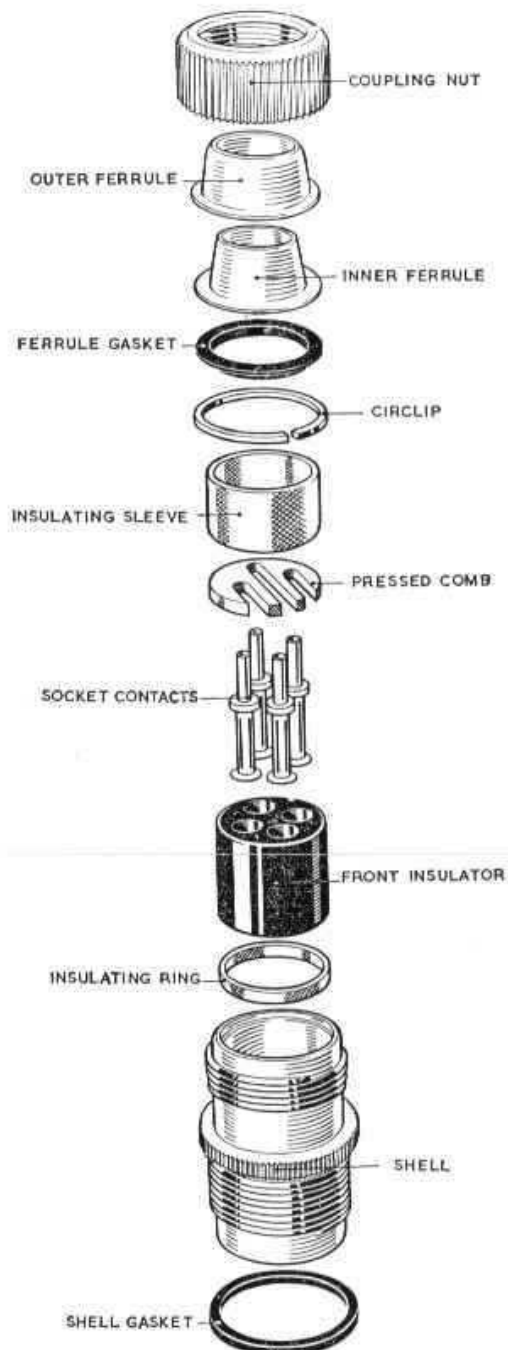

Fig. 7. Free unit (exploded) with coupling nut and inner and outer ferrules, vibration proof
16. Units at stage 4 (fig. 7 and 8) introduced vibration-proof socket contacts (suitable for soldering or crimping without the use of thimbles). A pressed comb replaces the comb insulator used at stage 3, making the unit suitable for use with arrangements which include 37A and 64A contacts. Wire locking holes are drilled in the coupling nut as an added precaution against vibration.
Inner and outer ferrules (Table 31 and fig. 7)